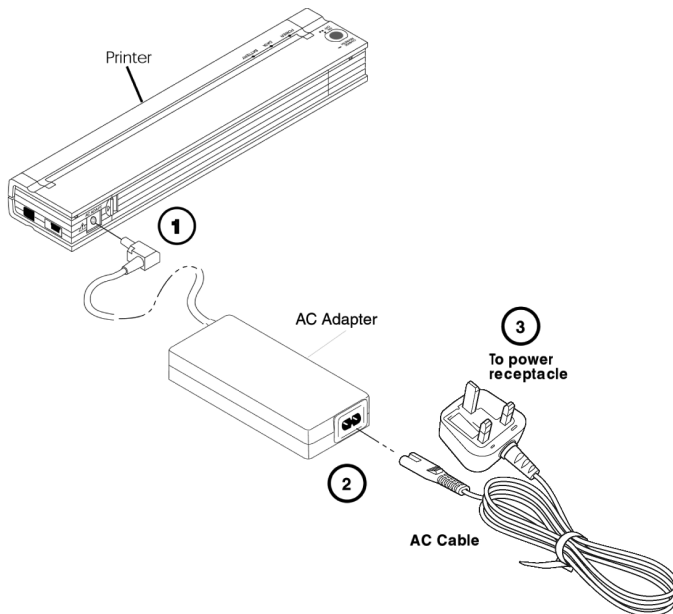

Figure 2. Connecting the printer to an AC power outlet
1. Connect the AC adapter to the printer as shown in Figure 2.